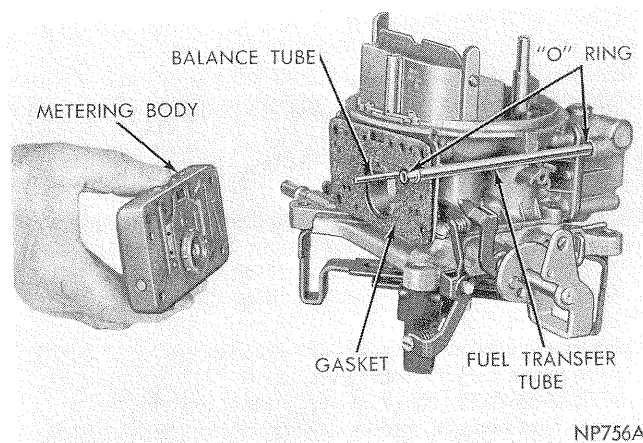

FIG. 41 Installing Primary Metering Body (Model 4160)
3. Carefully install primary metering body over balance tube (if used) and press firmly on dowels (Figure 41).